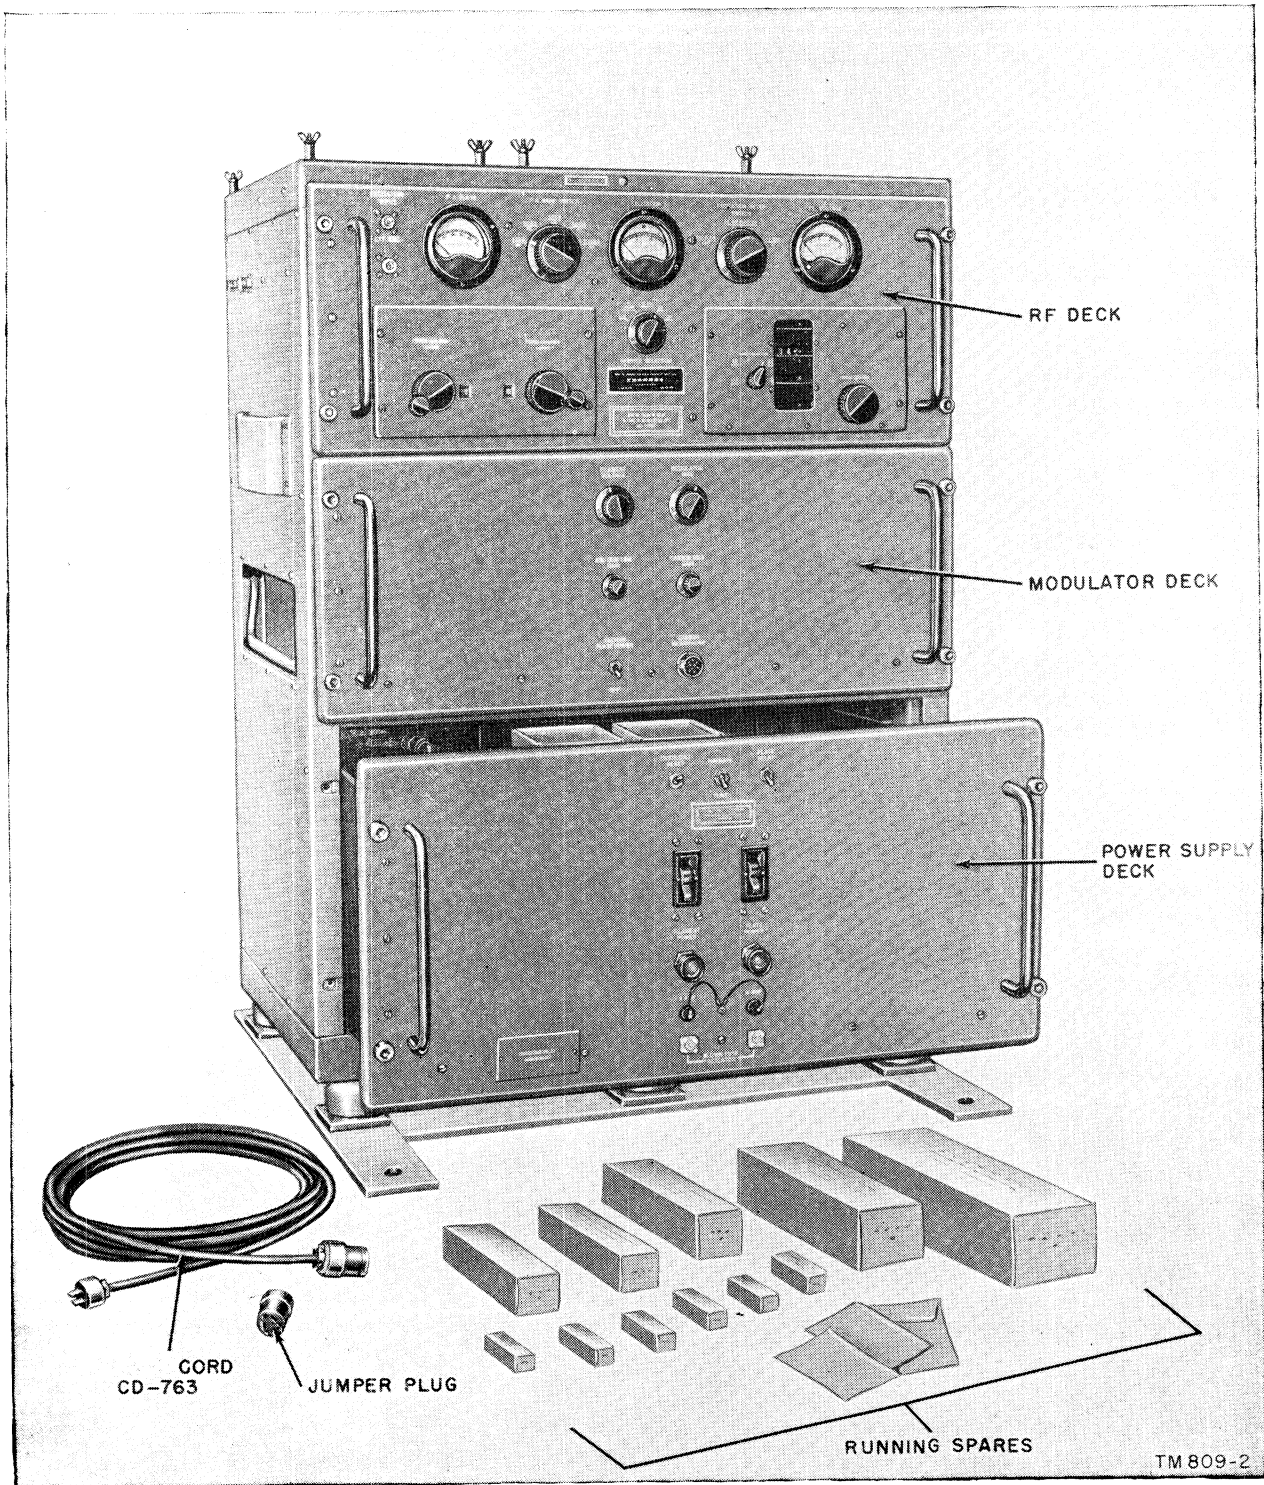

Figure 3. Radio Transmitter T-368/URT, components.
7. Table of Components (fig. 3)
b. The rf deck (fig. 3) contains all the rf controls and the meters of the equipment on its front panel. Each tuning control contains its own mechanical counter. The other controls and the meters are read from their respective panel markings. Two coaxial receptacles FSK and EXT EXC provide a means of bringing in outside signals for increasing the types of service selected by the SELECT-OR SERVICE switch. The exciter stages are mounted on subassemblies (fig. 50) and may be removed easily for servicing and adjusting.
c. The modulator deck (fig. 3) contains all of the modulation controls of the equipment. The chassis contains a speech amplifier subassembly (fig. 65) which can be easily removed for testing purposes. A receptacle is provided to connect either a hand-key or a microphone to the transmitter.
d. The power supply deck (fig. 3) contains the protection and indicator devices and all of the ac controls except the THERMAL RESET switch of the equipment. A subpanel covers the two controls used to adjust the overload relay. The panel lamps, fuses, and blown fuse indicators are located on the front panel.